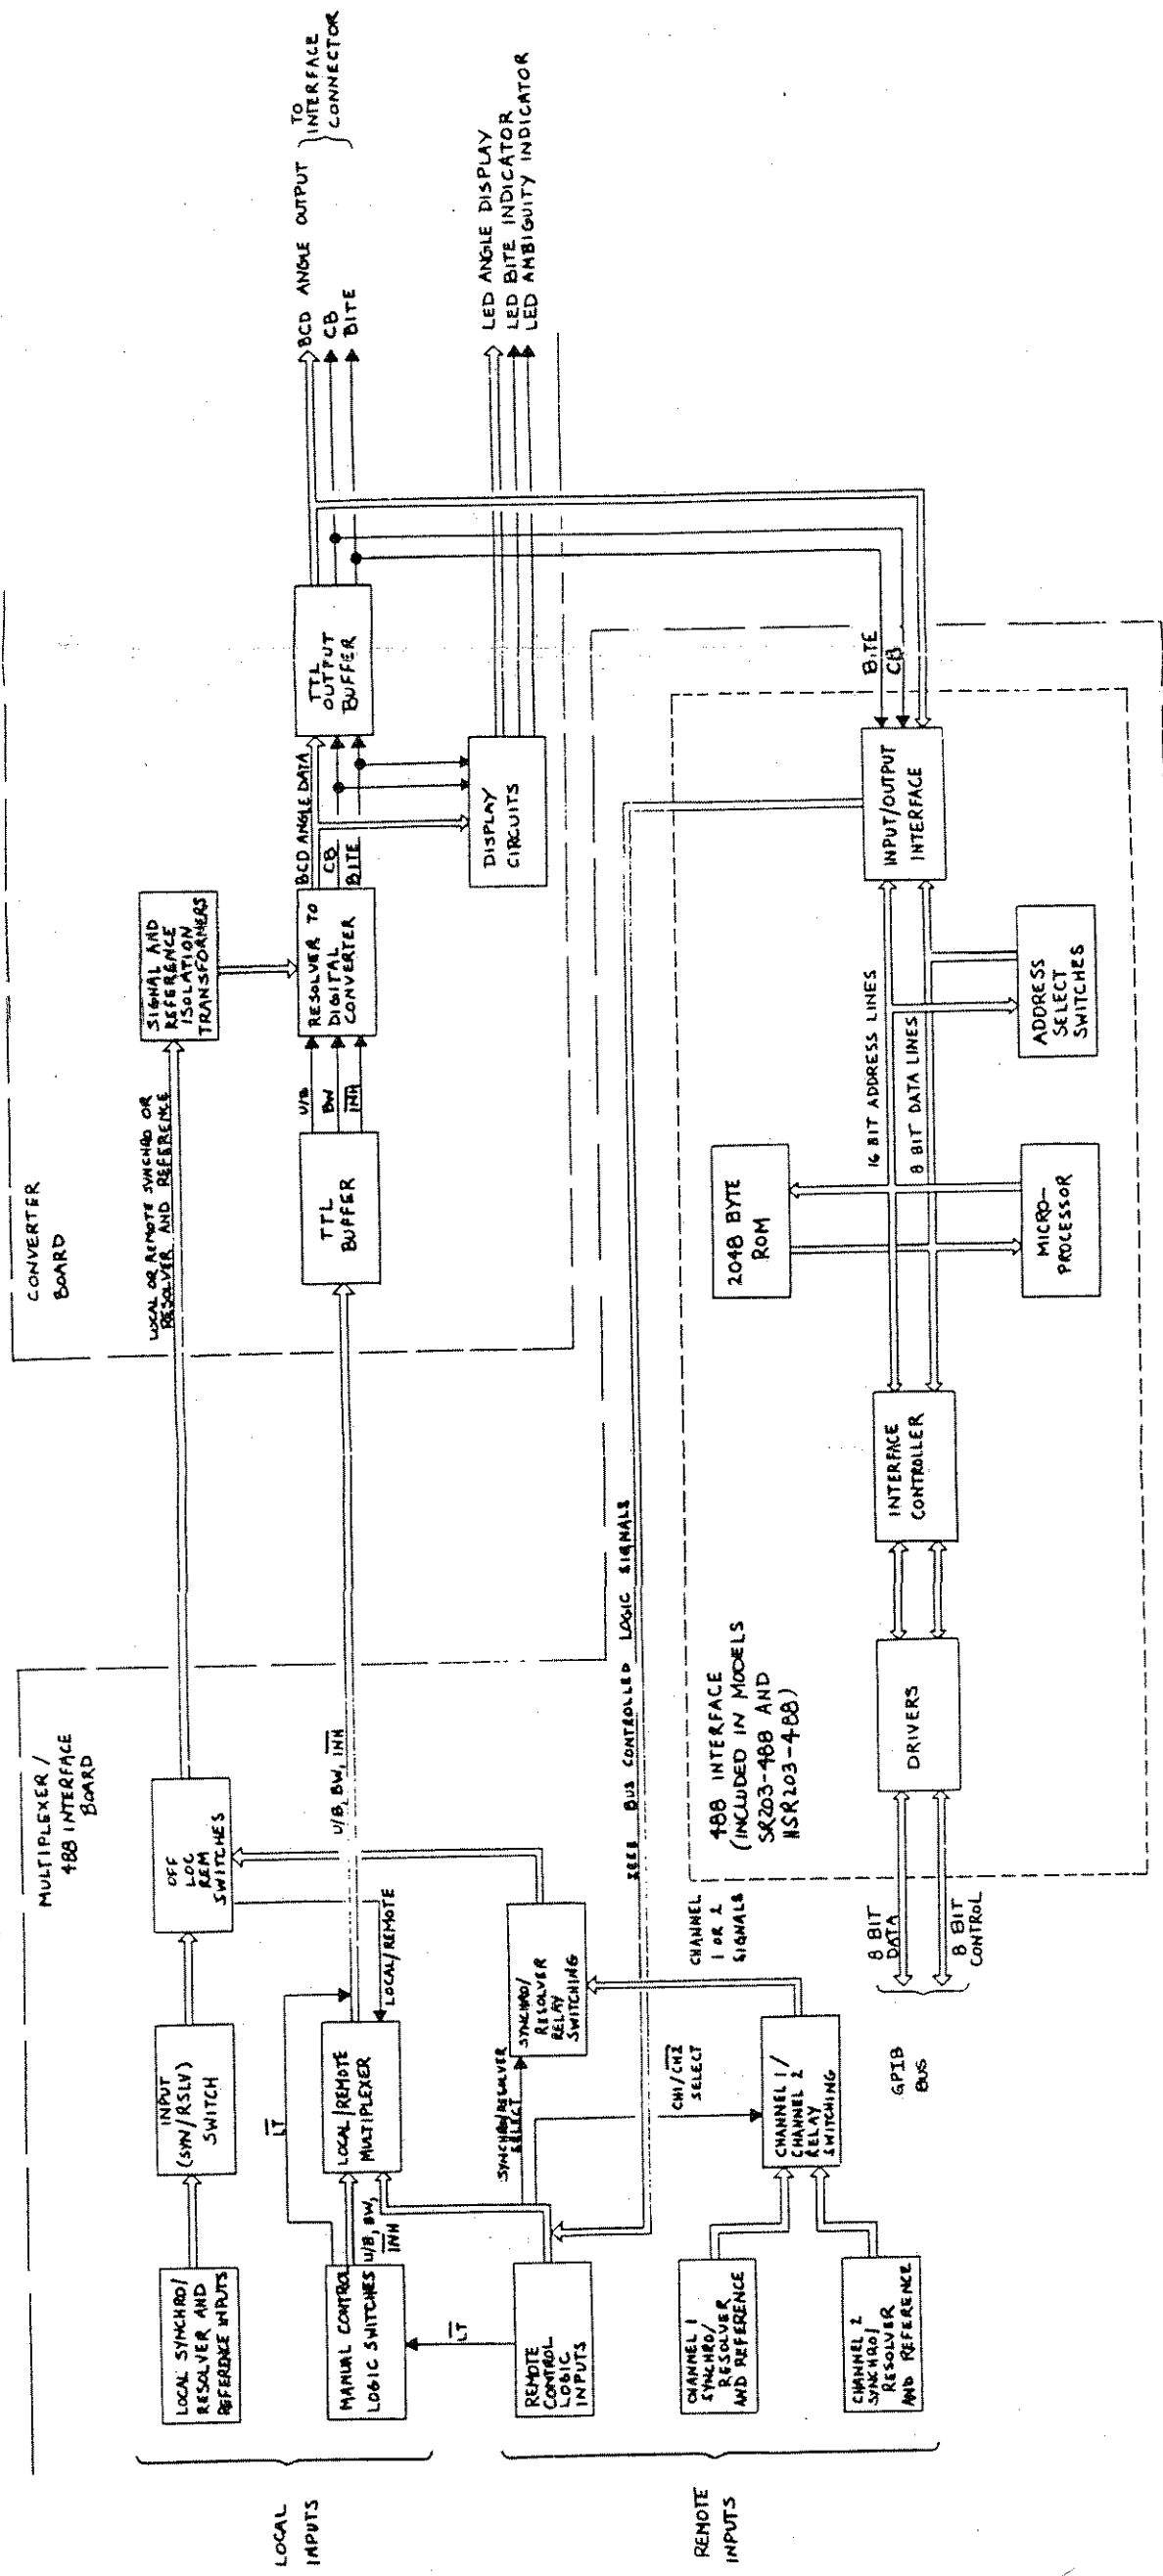

Figure 3-1. SR203-488, Block Diagram
This section describes the operation of the Model SR203-488 in terms of block and simplified diagrams (figures 3-1 through 3-5) and the overall schematic diagram, figure 4-1. Sufficient information is provided to support equipment maintenance down to module level.
3.2 OVERALL DESCRIPTION (See figure 3-1.)